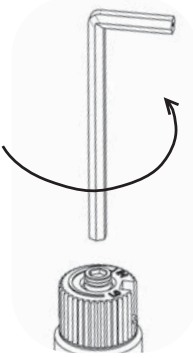

Fig. 2
- 15) Insert a 5/32" or 4mm Allen wrench into the hexagonal key-way of the screw (Fig. 2), rotate it counter-clockwise until it is free and extract it.